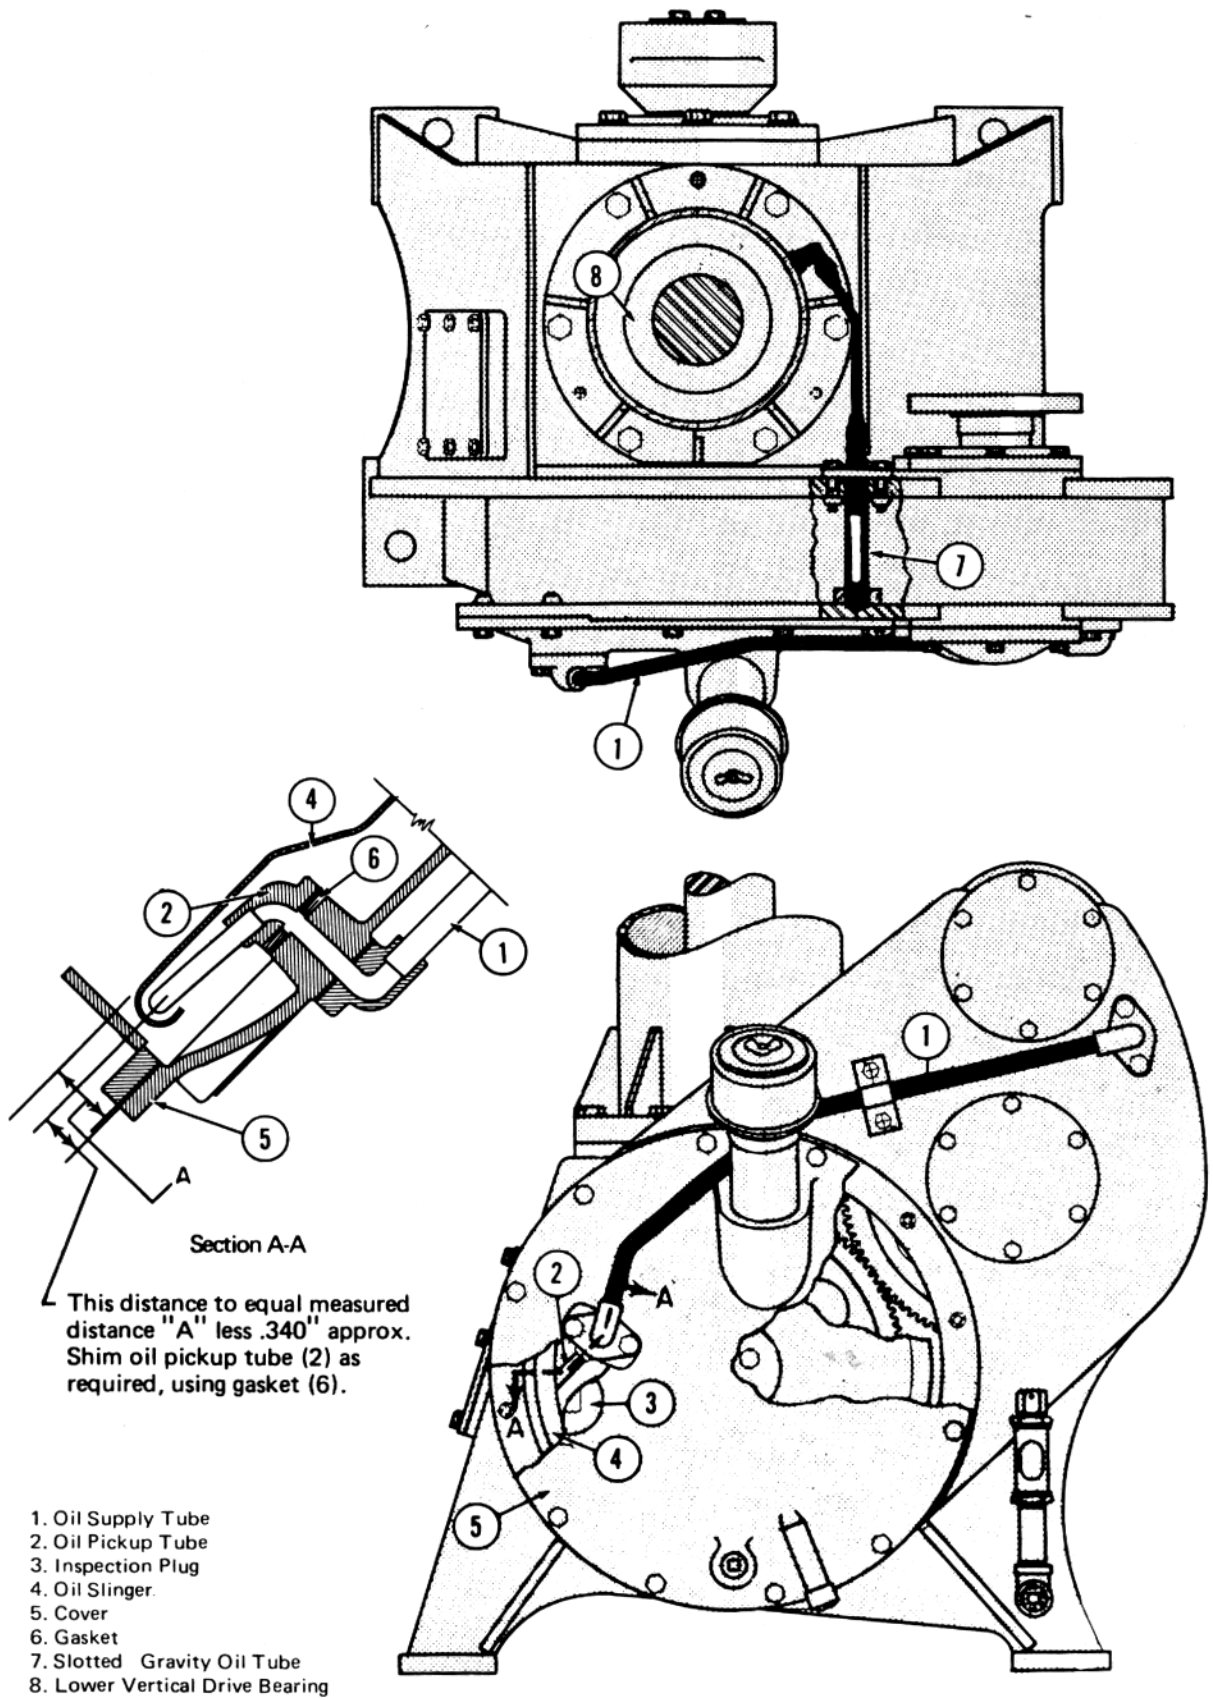

Fig. 6 – Oil Tube Application, Pressure-Type Lubrication System
In assemblies such as 8253685 shown in Fig. 2, the blower drive gear train requires use of a pressure-type lubricating system. Oil is conducted from the bevel gear box to the traction motor blower drive gear train through tubes, (44) Fig. 2, and a drilled passage. The oil flows into the oil slinger (38) applied at the end of the main drive shaft adjacent to the drive gear. The slinger propels the oil into the nozzle of an oil tube positioned in the slinger groove, Fig. 6. The end of this tube must be sharp and free of nicks or oil will not enter the tube.
Oil is conducted through the tube to discharge between the upper two gears in the blower gear train. Oil throw-off from this delivery is directed into a slotted tube, (7) Fig. 6, by a baffle. This oil is then gravity fed to the lower bearings of the vertical drive shaft. After lubricating these bearings and flowing over the main drive gears, the oil returns to the bottom of the gear housing for recirculation. All oil passages must be kept clean and free of obstructions such as poorly indexed gaskets.
2. Remove the oil seal housing (57) and the oil seal (56) from the housing.
3. At the opposite side of the housing carefully remove the oil supply tube, (1) Fig. 6, from the cover (5), and remove the cover bolts and cover.